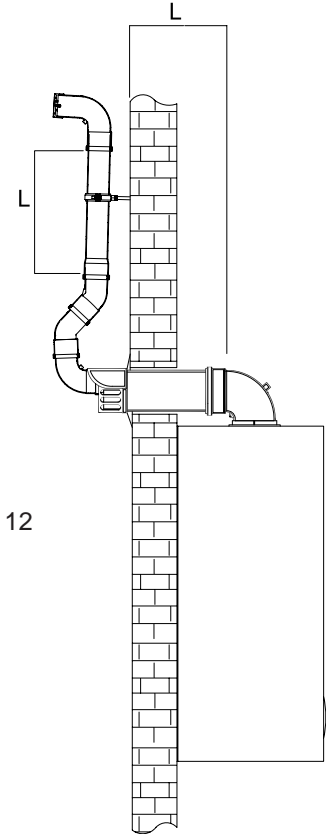

Fig. 12
This appliance will produce a plume of condensation in cool weather. This is due to the High Efficiency and hence low flue gas temperature of the boiler. A plume management kit is available. (see section 5.6 fig 12)
**5.6 PLUME MANAGEMENT KIT (Fig 12)**
TER110101 (Fig. 12)	1 metre high plume kit containing: n. 1 terminal bend n. 1 90° elbow bend n. 2 45° bend n. 1 metre 60 M-F flue length n. 1 flue length bracket